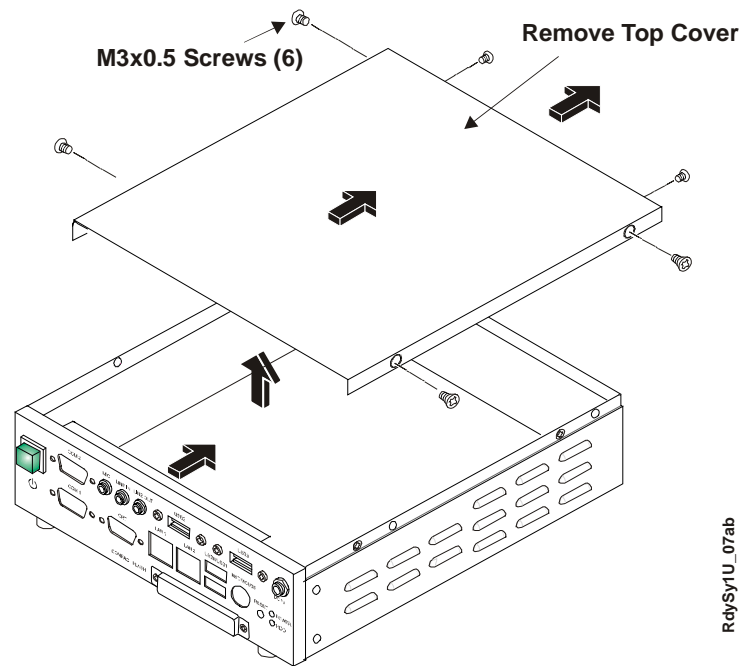

Figure 2-3. Removing ReadySystem Top Cover
- b. Lift the top cover up and away from the enclosure. See Figure 2-3.
3. Remove any of the six screws still holding the top cover to the ReadySystem. See Figure 2-3.